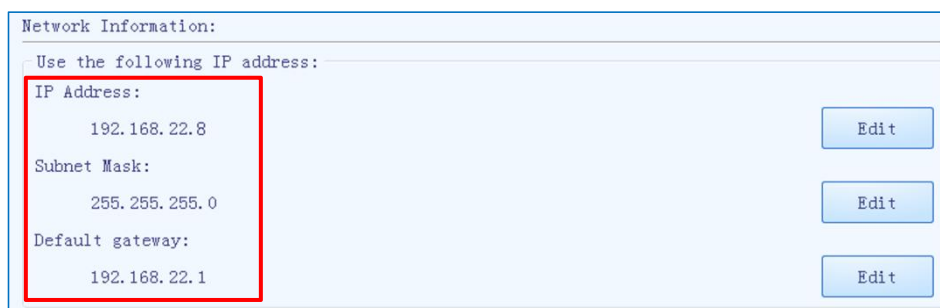

Figure B-7a. Network Information Window - Default Network Information
**1st step:** please first check the network information of Gentier instrument, which is displayed on the network information window of the instrument software, as shown in figure B-7a. For detailed operation, please refer to E-2.4 General Settings - 2.4.2 Configuration Sub-tab - Network Information.